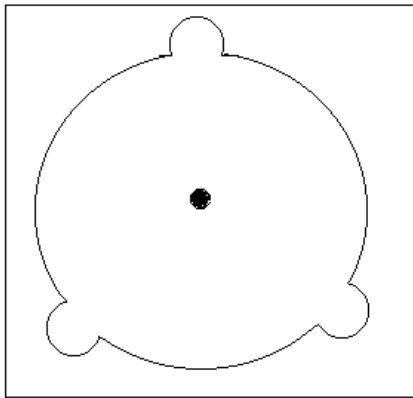

Figure17
- 1) It has the drill map in embedded bracket , tip the black parts of double paper, the central of drill map have a red spot, which is central spot ( Figure17 ) .